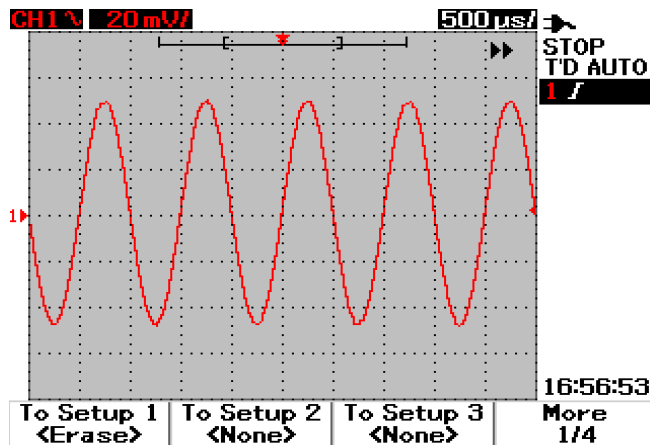

Figure 3-44 The <None> display indicates that no setup file is saved. The <Erase> in Setup 1 shows that you can erase the setup file from the internal memory.
- 4 In Figure 3-44, press F1 to erase the waveform from Waveform 1.